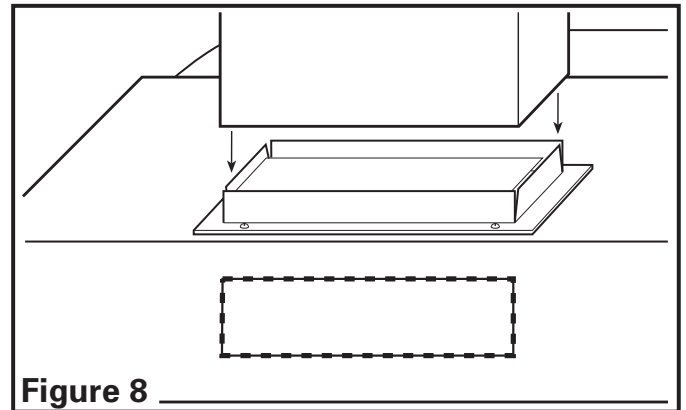

Figure 8
1. Connect the ducting to the hood's duct collar and damper. Secure in place using tape to seal all joints (**Figure 8**).